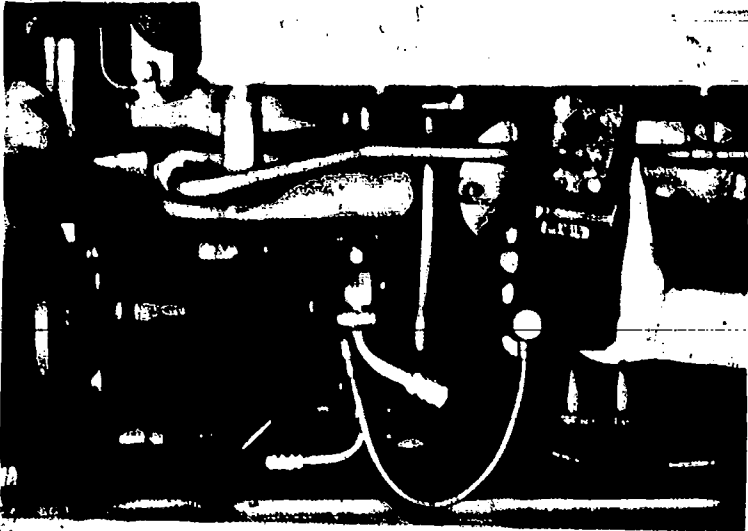

Fig 77 — Leak Test System Using Electronic Detector
1. Move pick-up under hoses, joints, seals, and any possible place for a leak to occur (Fig. 77). Do not move sampling end of detector faster than 1 inch (25 mm) per second.